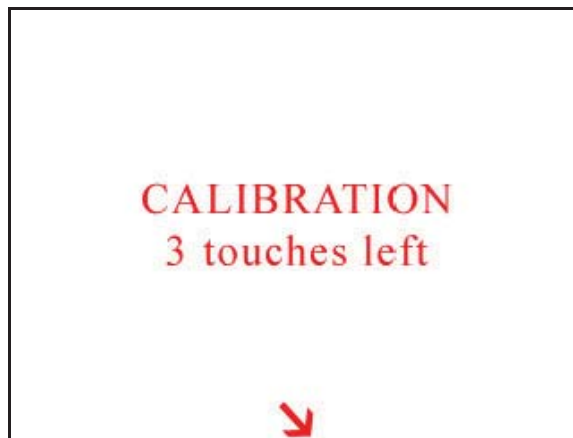

Figure 6-16 Alignment Step 4
- Carefully touch the arrow tip as shown in Figure 6-16.